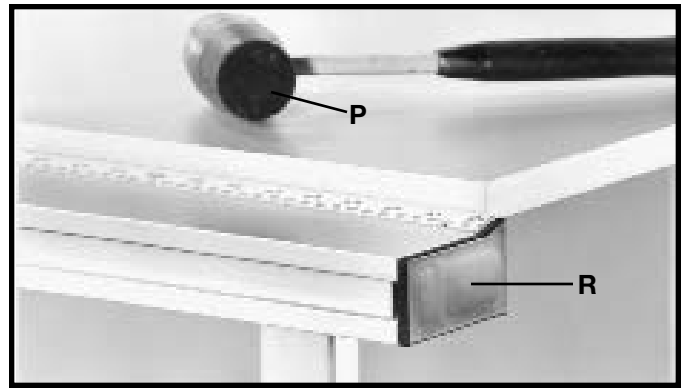

Fig. 27
7. Using a rubber mallet (P) Fig. 27, or a hammer and a block of wood, gently tap end cap (R) into both ends of the guide rail. **NOTE:** To avoid damage to the guide rail, **DO NOT** use a metal hammer directly against the guide rail.